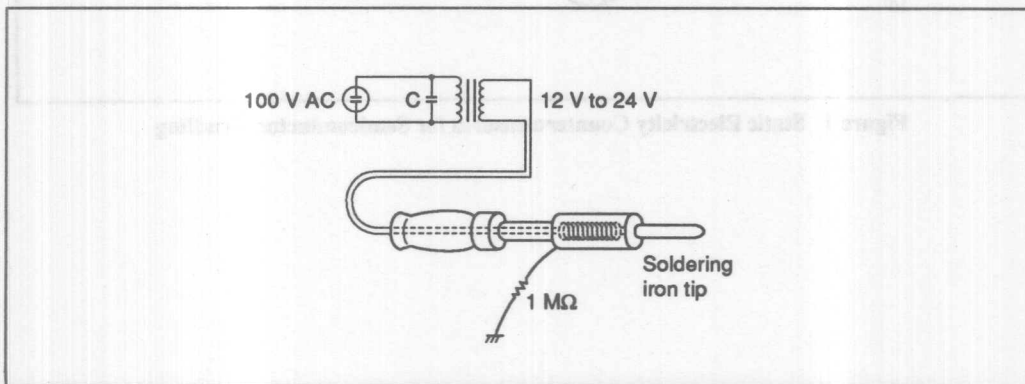

Figure 3 Soldering Iron Grounding Example
4. If soldering irons are used, use low voltage (12 V to 24 V) soldering irons designed for use with semiconductors. Ground soldering iron tips as shown in figure 3.